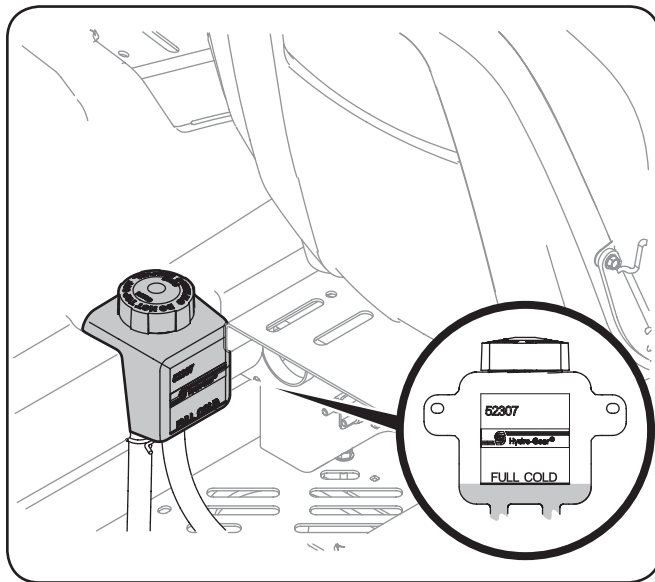

Figure 6-4
1. Pivot the operator's seat forward and clean the reservoir cap and the area around the cap to prevent debris from contaminating the transmission oil. See Figure 6-4.
2. Turn the reservoir cap counterclockwise to re-move, then check the oil level in the reservoir. Oil should be visible at the bottom of the cup, but the oil level must **NOT** be above the "FULL COLD" line. See Figure 6-4. **DO NOT FILL THE RESERVOIR.**